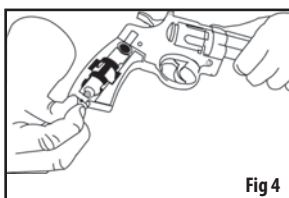

Fig 4
- Hold the airgun by the barrel with one hand and with the other hand, slowly turn the piercing lever counterclockwise until it stops. (Fig. 4)